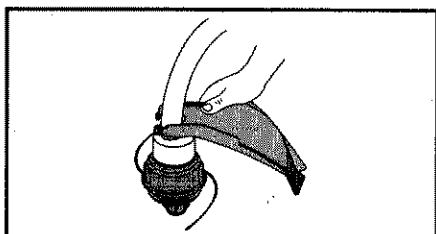

Fig. 4
2. Push the string guard down to the top of the string head assembly and then rotate the string guard to the proper position (Fig. 4). The string guard is in the correct position when the string guard points toward the engine, and the holes in the string guard line up with the holes in the top of the string head assembly.